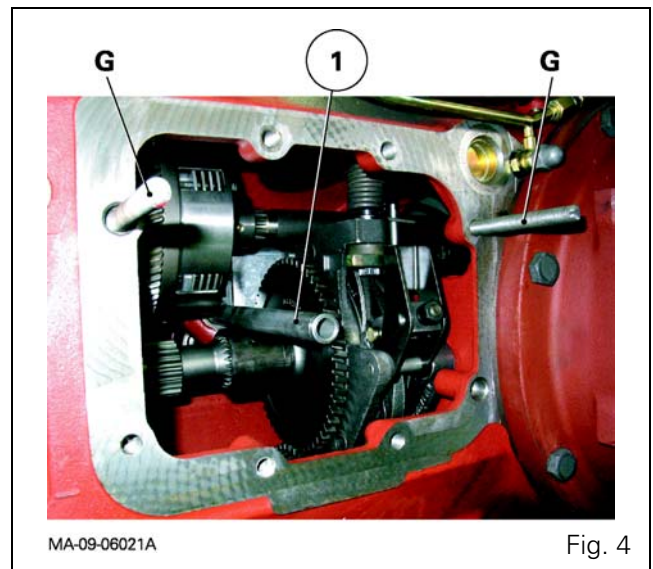

Fig. 4
8. If necessary, remove the transfer pipe (1) (Fig. 4).
10. Check that the O'rings of the transfer pipe (11) are not damaged and refit it on the right-hand cover (Fig. 4).
12. Screw two locally made guide studs "G" into opposing holes on the housing (Fig. 4).